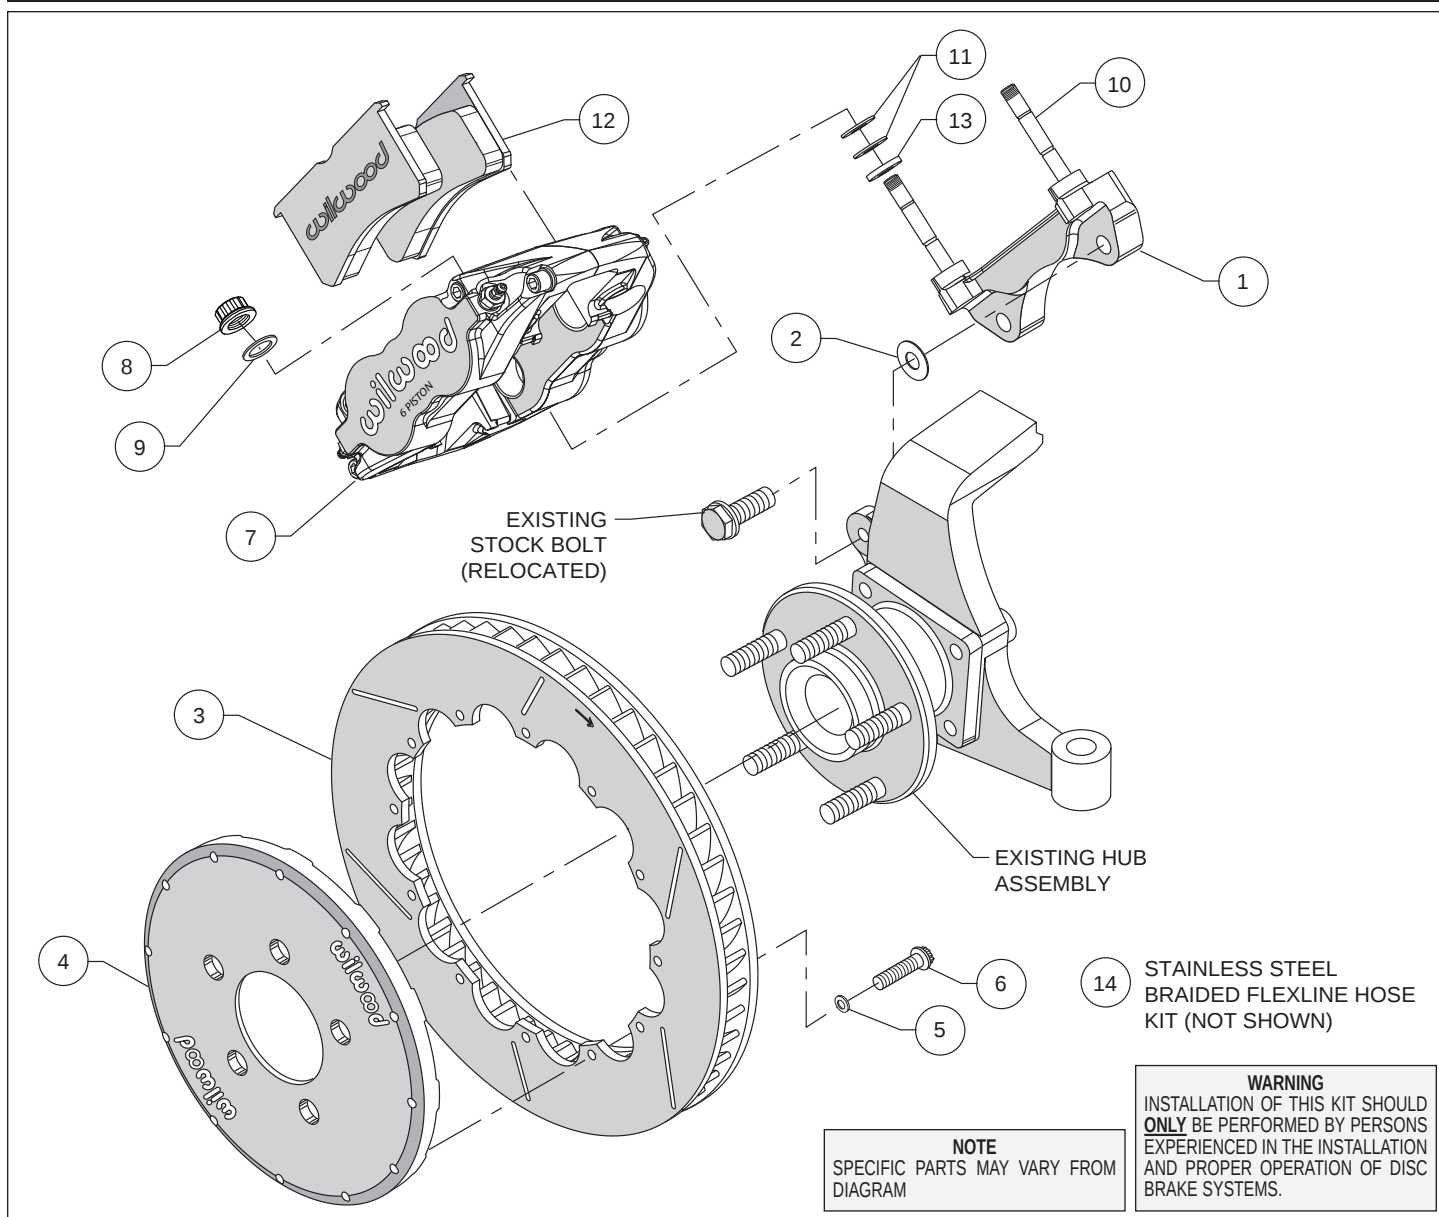
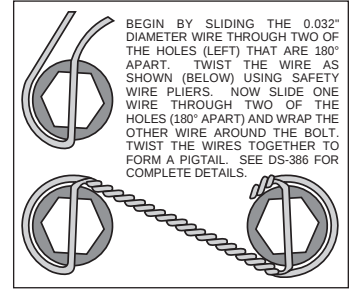

Figure 1. Typical Installation Configuration
Figure 3. Safety Wire Diagram
**Assembly Instructions** (numbers in parenthesis refer to the parts list and Figure 1 on the preceding pages):
- The caliper mount bracket (1) should initially be installed with clean, dry threads on the mounting bolts. Orient the bracket as shown in Figure 1, and install using OEM bolts. Initially place one .033 thick shim (2) on each bolt between the bracket and upright, Figure 1. Temporarily tighten the mounting bolts. **NOTE:** The bracket must fit squarely against the mount bosses on the upright. Inspect for interference from casting irregularities, machining ridges, burrs, etc. Later, after the caliper alignment has been checked, the mount bolts will be secured using red *Loctite*® 271.
- Orient the rotor (3) and the hat (4) as shown in Figure 1 and Photo 1. Attach rotor to hat using bolts (6) and washers (5). Using an alternating sequence, apply red *Loctite*® 271 to the threads, and torque to 155 **in-lbs**. The bolts must be safety wired using standard 0.032 inch diameter stainless steel safety wire as shown in Figure 3. Please refer to Wilwood's data sheet DS-386 (available at [www.wilwood.com/Pdf/DataSheets/ds386.pdf](http://www.wilwood.com/Pdf/DataSheets/ds386.pdf)) for complete safety wire installation instructions.
- NOTE:** This kit contains distinct right and left hand calipers that must be mounted in a specific direction, as described below. Lubricate the caliper mounting studs (10) with lightweight oil. Initially place one .062" thick spacer (13) and two .035" thick shims (11) on each stud as shown in Figure 1 and Photo 2. Mount the caliper (7) onto the bracket (1) using lock nuts (8) and washers (9), Figure 1. Ensure that the caliper is mounted so that the largest pistons are at the rotor exit end of the caliper, in relation to the direction of rotor rotation. Temporarily tighten the lock nuts and view the rotor through the top opening of the caliper. The rotor should be centered in the caliper, Photo 3. If not, adjust by adding or subtracting shims (2) between the bracket and the upright. Always use the same amount of shims on each of the two mounting bolts. Once the caliper alignment is correct, remove the bracket mounting bolts one at a time, apply red *Loctite*® 271 to the threads, and torque to 60 ft-lb.